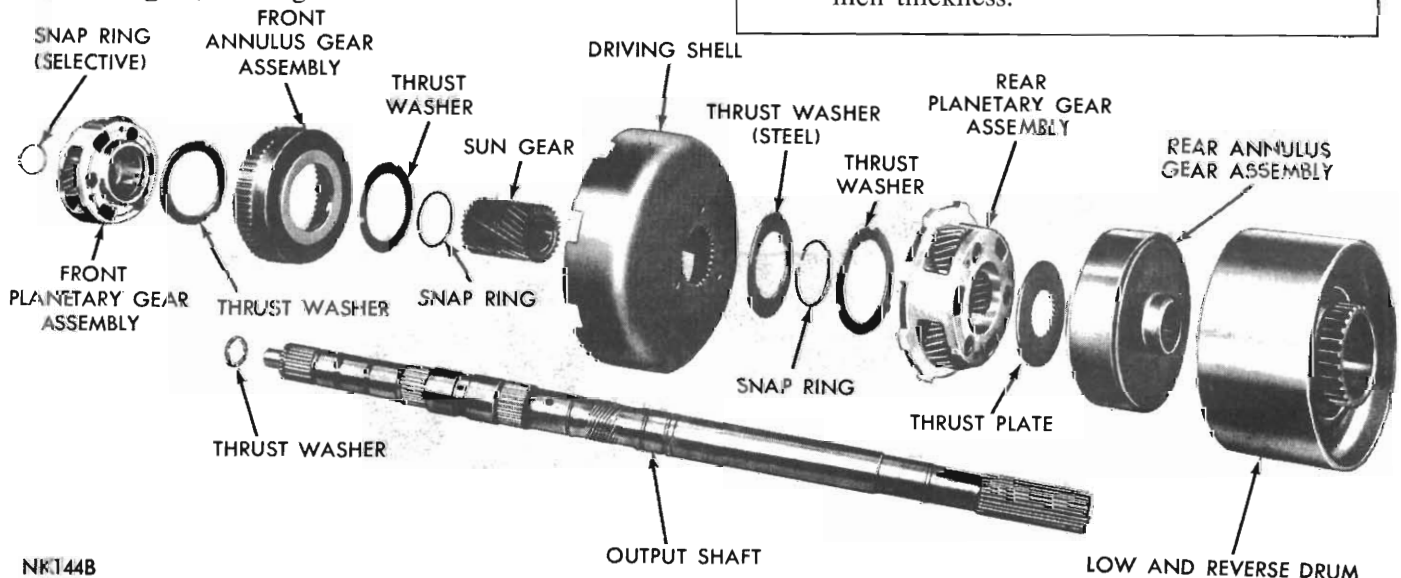

Fig. 85 - Planetary gear train and output shaft disassembled (A-727)
(1) Remove thrust washers from forward end of output shaft (Fig. 85).
(2) Remove selective snap ring from forward end of output shaft, then slide front planetary assembly off the shaft.
(3) Slide front annulus gear off planetary gear set (Fig. 85). Remove thrust washer from rear side of planetary gear set.
(4) Slide sun gear, driving shell and rear planetary assembly off output shaft.
(5) Lift sun gear and driving shell off rear planetary gear assembly. Remove thrust washer from inside the driving shell. Remove snap ring and steel washer from sun gear (rear side of driving shell) and slide sun gear out of the shell. Remove front snap ring from sun gear if necessary. Note that front end of sun gear is longer than rear.
(6) Remove thrust washer from forward side of rear planetary gear assembly, remove planetary gear set and thrust plate from rear annulus gear.
Refer to Fig. 85 for parts identification.